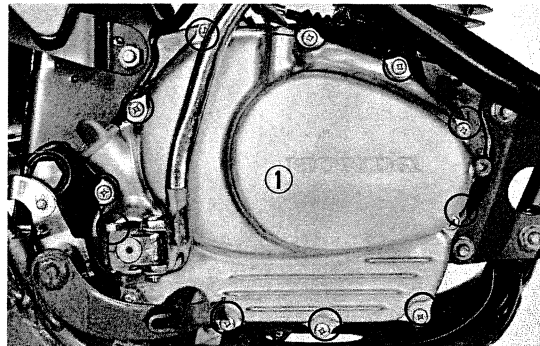

Fig. 3 ① Right crankcase cover
- 4) Remove the right crankcase cover.(Fig. 3)